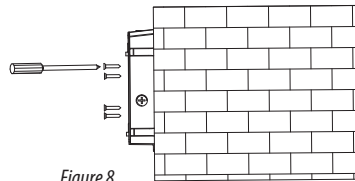

Figure 8
7. Install back mounting plate onto the mounting seat with screws. (Figure 8)